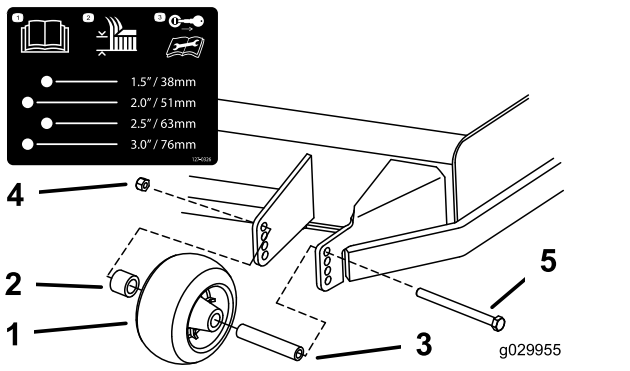

Figure 26
3. Adjust the anti-scalp rollers as shown in Figure 26.